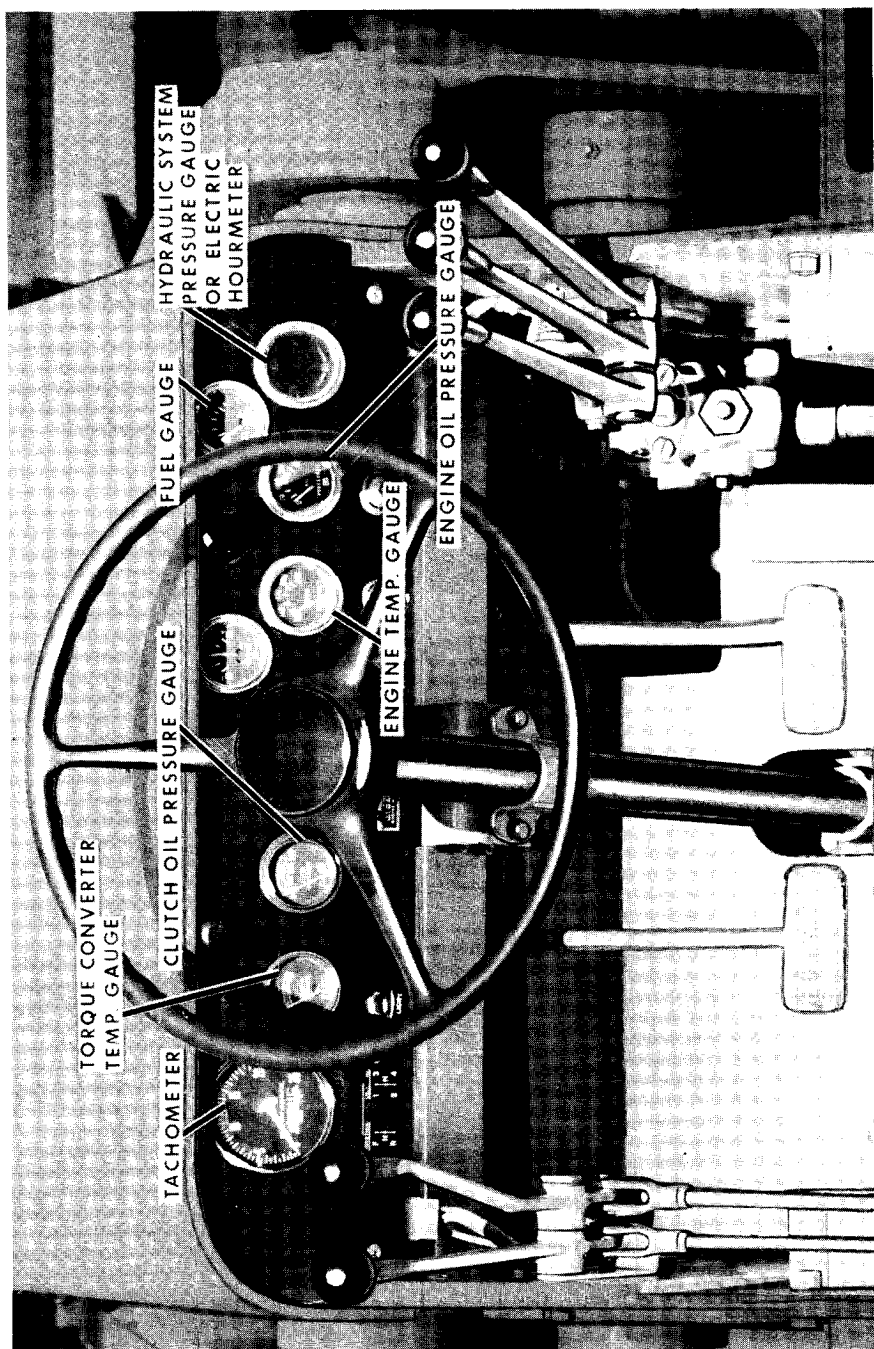

Figure 20
**TACHOMETER** - Figure 20. Indicates engine speed in revolutions per minute. Revolutions per minute is indicated in 50 RPM steps.
**HOURMETER** - Figure 20. The hourmeter is located within the tachometer dial. The direct reading hourmeter indicates hours and tenths of hours that the engine has run. The hourmeter does not record clock hours, but rather the average engine hours, at a mean speed of 1650 RPM. The hourmeter provides a convenient means of knowing when to service the Loader.
**CLUTCH PRESSURE GAUGE** - Figure 20. Indicates hydraulic clutch operating oil pressure. The gauge needle should register between 150 and 200 PSI before transmission serial #6744C and between 200 and 250 PSI transmission serial #6744C and after, which is the operating zone. If the gauge needle drops out of the operating zone, will not reach the correct operating zone, or goes over the correct operating zone - DO NOT OPERATE THE LOADER UNDER LOAD UNTIL THE CAUSE HAS BEEN DETERMINED AND CORRECTED.
**TORQUE CONVERTER TEMPERATURE GAUGE** - Figure 20. Indicates operating temperature of the oil in the torque converter. The gauge needle should register in the Green Zone on the gauge. If the gauge needle rises into the red zone. - PLACE THE TRANSMISSION IN NEUTRAL, IDLE THE ENGINE UNTIL THE GAUGE NEEDLE RETURNS TO THE GREEN ZONE. On of the causes of the converter oil overheating is operating too long at stall speed.
**FUEL GAUGE** - Figure 20. Indicates amount of fuel in the fuel tank.
**ENGINE TEMPERATURE GAUGE** - Figure 20. The gauge needle will register in the Work Zone when the engine is at correct operating temperature.
**ENGINE OIL PRESSURE GAUGE** - Figure 20. The engine oil pressure gauge should register between 40 to 45 PSI when the engine is warm and running at full governed speed. When low or no oil pressure is indicated on the gauge, stop the engine and check for the cause of low oil pressure.